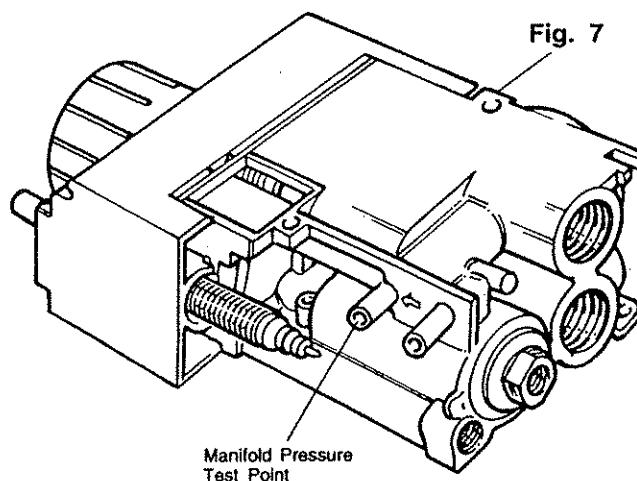

Fig. 7
1. Unscrew 2 turns manifold pressure test screw located nearest the control knob on the right hand side of the control (see fig. 7).